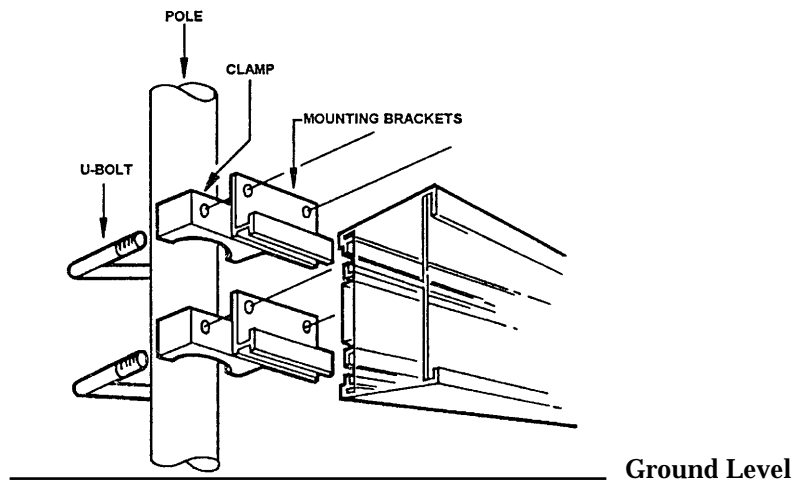

Figure 15
- Step 2** Begin by mounting the top (uppermost) module, either the sponsor panel module if applicable or the top line of the scoreboard module. Position the scoreboard mounting brackets into the top and bottom channel of the scoreboard module (or sponsor panel module), see Fig. 15.